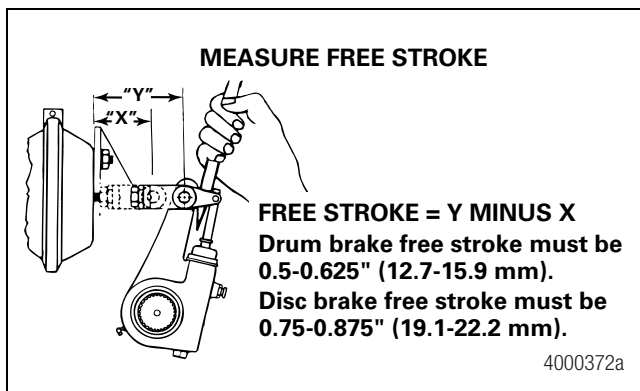

Figure 7.23
3. Measure the distance from the center of the large clevis pin to the bottom of the air chamber while the brake is released. The measurement you obtain is X in Figure 7.23.
4. Use a pry bar to move the slack adjuster and position the linings against the drum, brakes applied. Measure the same distance again while the brakes are applied. The measurement you obtain is Y in Figure 7.23.
5. Subtract X from Y to obtain the in-service free stroke. The measurement must be 0.5-0.625-inch (12.7-15.9 mm) for drum brakes. Figure 7.23.